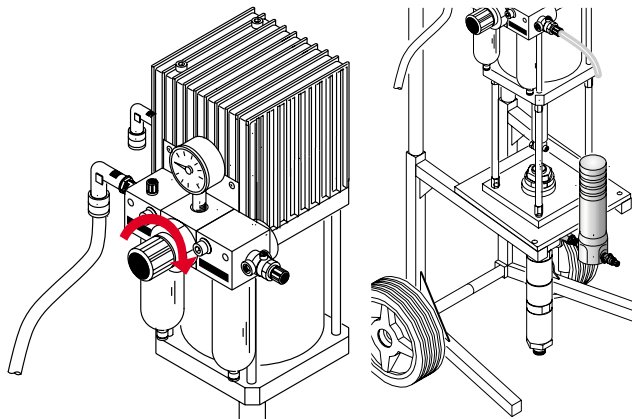
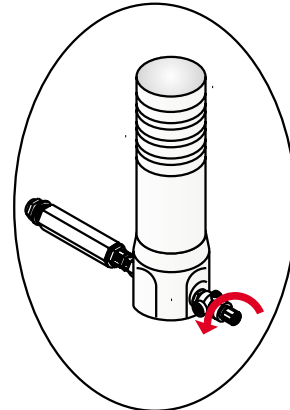

Fig.41
Fig.42
6) Close the air supply entrance (fig. 41) and open the recycle tap (fig 42) to remove all of the solvent and the air still to be found inside the circuit.